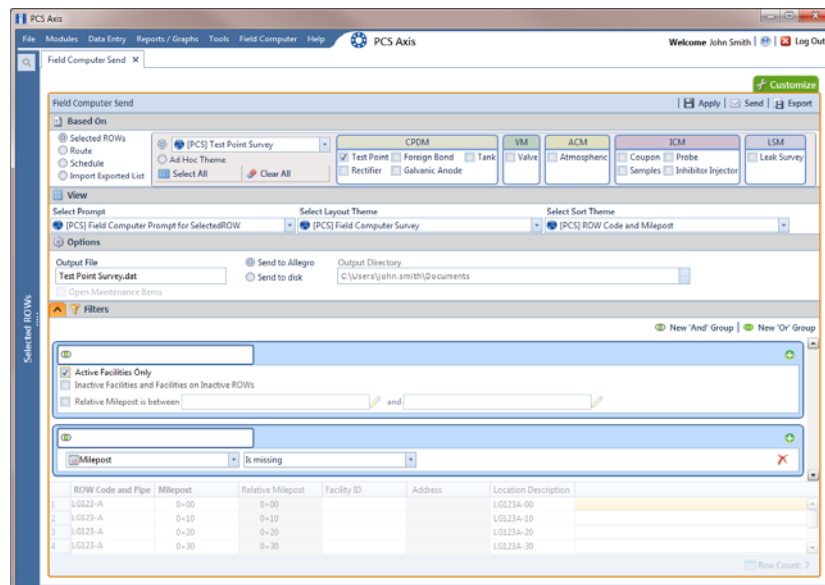

Figure 13-3. New 'And' Filter
- 7 If you want to work with a subset of facility records that meet *all* filter conditions, create an AND filter group using the following steps (Figure 13-3):
- 10 If the check box **Open Maintenance Items** is available for selection, click the check box if you want to include open maintenance records in the survey file (Figure 13-3, page 562).